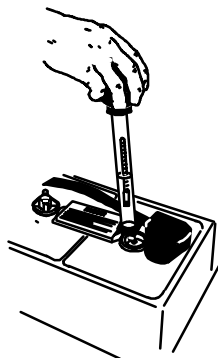

FIG. 65
1. Check the specific gravity using a hydrometer to determine the charge level and the condition of the batteries (Figure 65). If one or more of the battery cells read lower than the other battery cells (0.050 or more), the cell is damaged, shorted, or is about to fail. Check the hydrometer readings against the following chart to determine the remaining battery charge level.